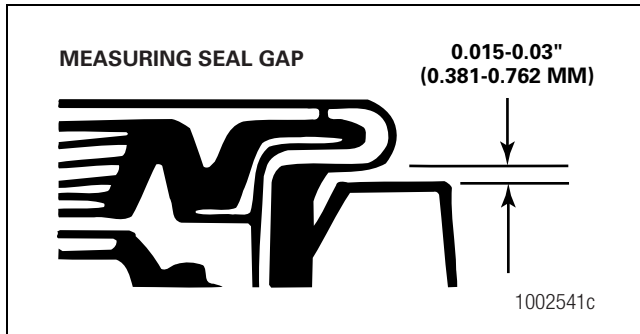

Figure 5.111
- If the gap varies more than 0.010-inch (0.254 mm) between the highest and lowest measurement: Remove and reseat the seal. Figure 5.111.